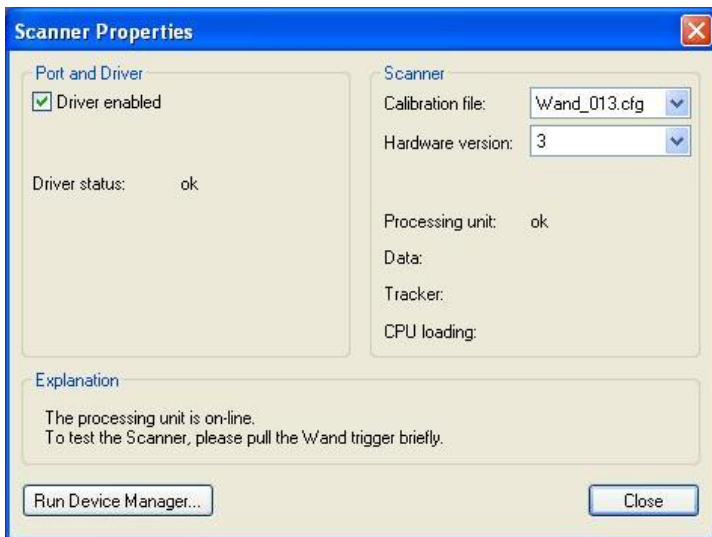

Figure 4: The **Scanner Properties** dialog box.
- When setting up the system for the first time or changing Wands open the **Scanner Properties** box (Figure 4) via **Scanner/Properties...**